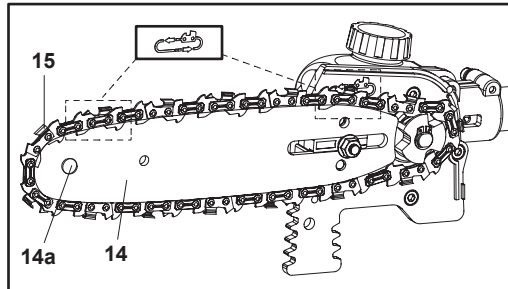

Fig. 11
7. The saw chain direction is as indicated by the arrow. Make sure the saw chain (15) is properly placed over the sprocket wheel (14a) of the guide bar (14) (Fig. 11).